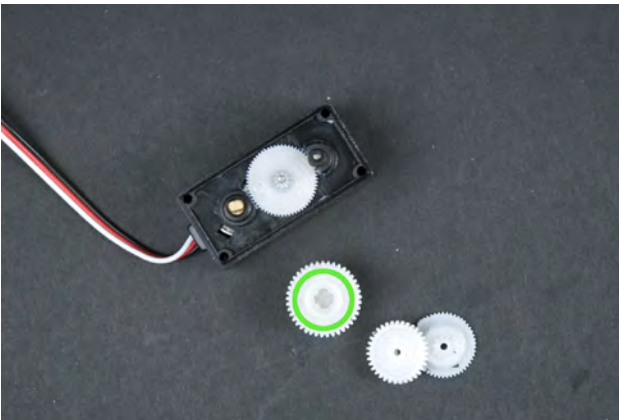
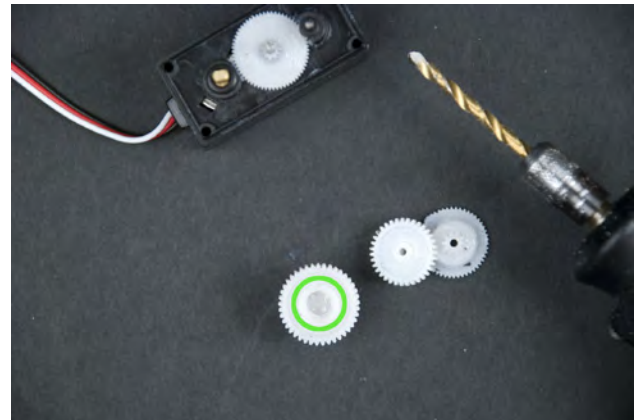

Figure 8-13. Area of the gear onto which the potentiometer's shaft locks
Figure 8-14. Rounding out the dent in the gear
7. The gear you removed from above the potentiometer has an indentation into which the potentiometer's shaft locks, as shown in Figure 8-13. Even out the edges of this dent to make it perfectly round, as shown in Figure 8-14, after which the potentiometer's shaft will no longer rotate when the gear turns. (Another option is to cut off the potentiometer's head, but that is harder.)